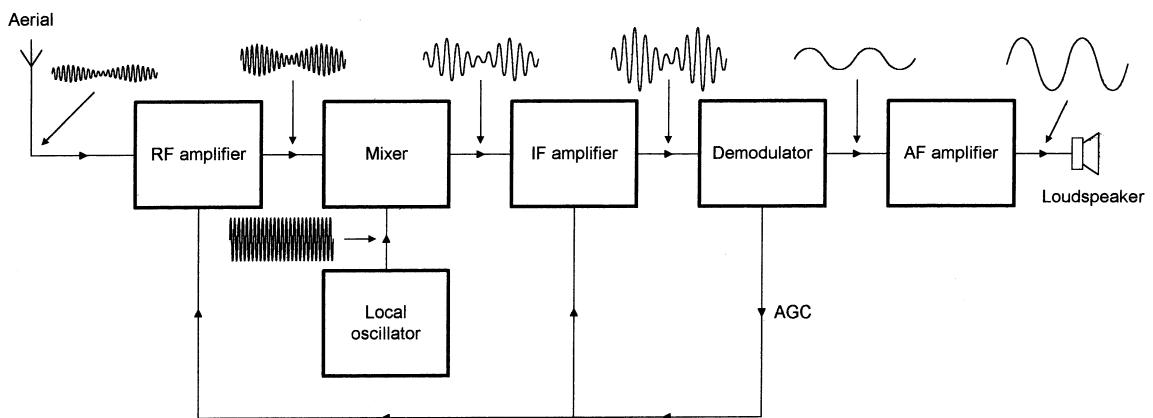

Figure 13.11 A superhet receiver
Superhet receivers provide both improved **sensitivity** (the ability to receive weak signals) and improved **selectivity** (the ability to discriminate signals on adjacent channels) when compared with TRF receivers. Superhet receivers are based on the **supersonic-heterodyne** principle where the wanted input signal is converted to a fixed **intermediate frequency** (IF) at which the majority of the gain and selectivity is applied. The intermediate frequency chosen is generally 455 kHz or 470 kHz for AM receivers and 10.7 MHz for communications and FM receivers. The simplified block schematic of a simple superhet receiver is shown in Fig. 13.11.